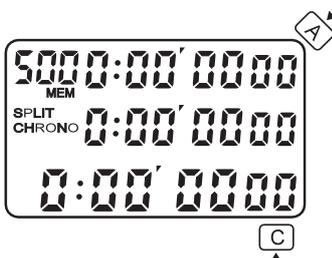

Fig. 2
- Press C to go to the CHRONOGRAPH MODE. The display as shown in Fig. 2. Press A to start.
- Pressing and hold A button when the stopwatch is displaying the RACE RECORDS will clear the memories in that race record (when the contents in this race record are cleared the display will show CLEARED and sounds a long beep, if A is released before ED appears the memories will not be cleared) and continuously holding A button after this will clear the memories of all races (display will show ALL CLEARED and display will return to as shown in Fig.2. Memories are available for storage when they are cleared.